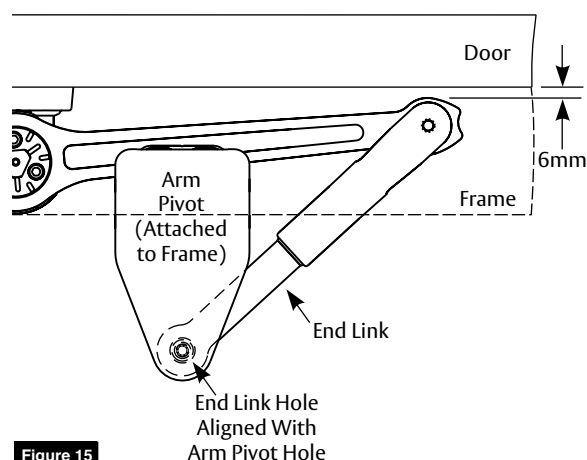

Figure 15
1. Pull arm elbow 6mm away from face of door to add tension. (Figure 15)
2. While maintaining arm elbow position at 6mm, increase or decrease arm length by twisting end link to align end link hole with arm pivot hole. (Figure 15)